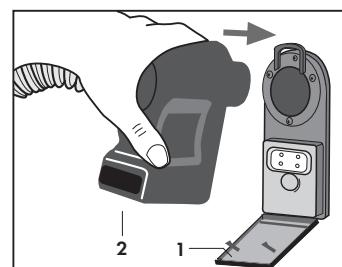

Fig. 8
- Fully open the door (1) giving access to the accessory socket (Q) and fit the quick connection (2) of the hose (20) to the socket on the front of the appliance. Press the connection in as far as it will go (**Fig. 8**).